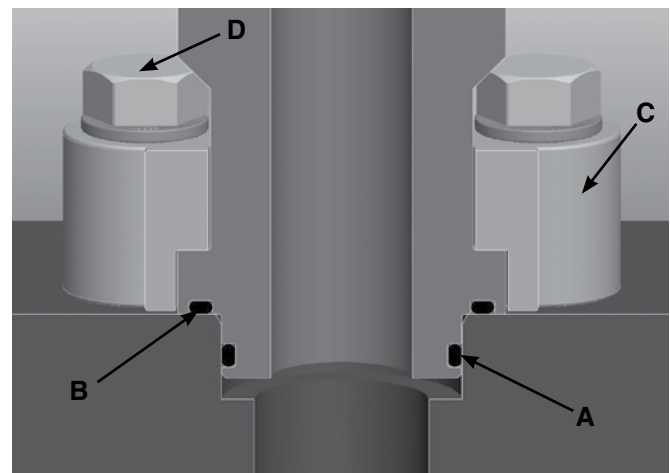

Fig. L5
As shown below, Dual Seal Flange connections use both a radial seal and face seal to achieve superior leak free port connection. The primary radial seal (A) improves the pressure capabilities of this adapter to 7500 PSI while offering additional system integrity. The face seal (B) provides resistance of external pressures introduced by the application environment. The flange clamps (C) and bolts (D) are used to compress the o-rings into the port and provide the clamping force necessary. Reference Fig. L5 below.